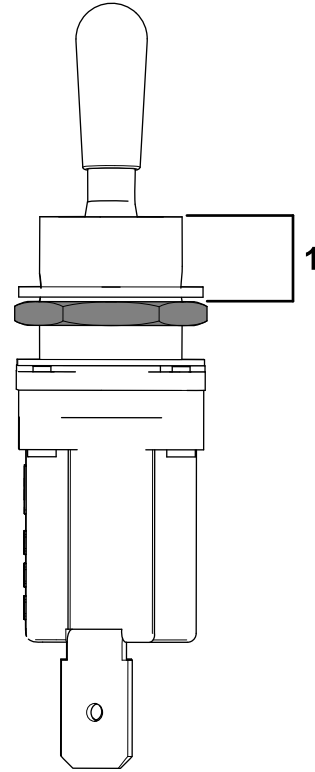

Figure 8
7. From the top of the threads on the toggle switch, set the depth of the bottom hex nut at 7.9 mm (5/16 inch) as shown in Figure 8.